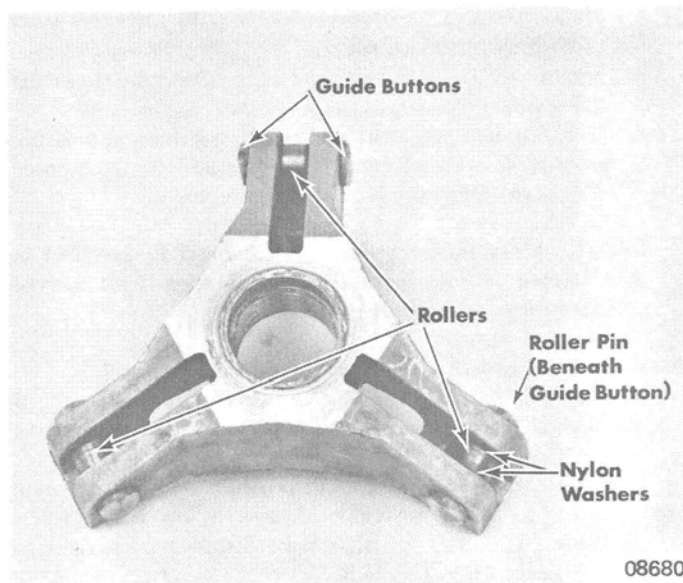

Figure 9. Spider and Rollers
- a. Remove guide buttons from spider. (Figure 9)
- b. Remove roller pins, rollers and nylon washers. (Figure 9)
1. Reassemble spider (Figure 9) as follows: